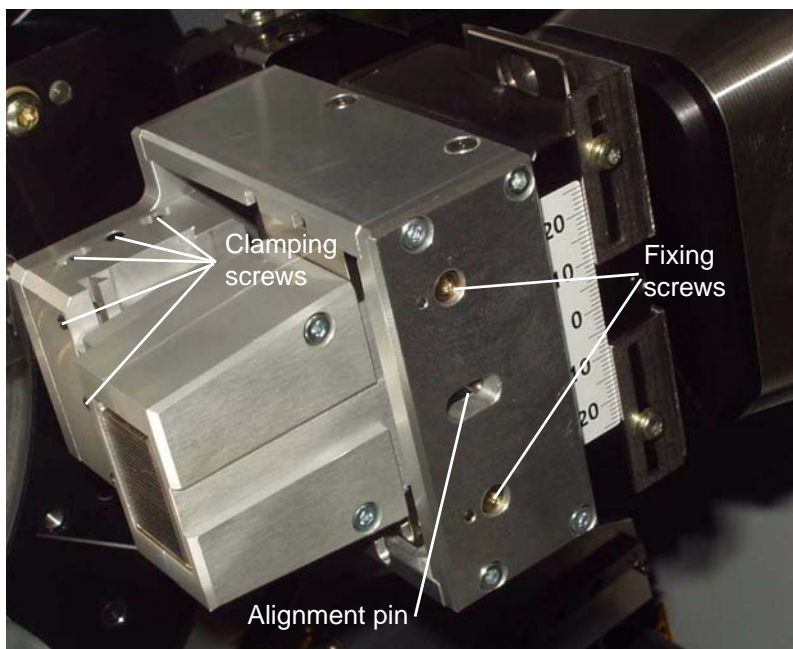

Figure 4.31 - Installation of the radial Soller slit
2. Install the radial Soller slit (see Figure 4.31).